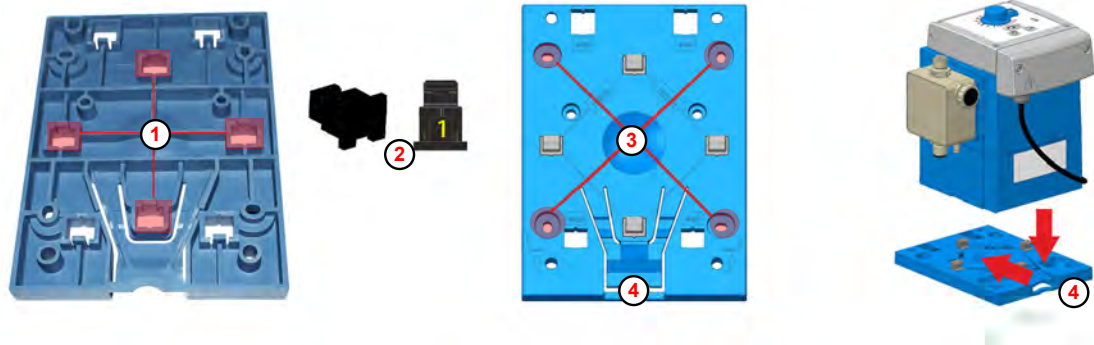

Fig. 4: Preparations for table mounting
- ① Opening
- ② Fixing element
- ③ Borehole
- ④ Fixing bracket
*On the underside of the mounting plate, the boreholes for countertop mounting ( Fig. 4 , ① ) are marked with a 1.*
*Only fixing elements ② with the number 1 may be used for table mounting.*
2. Push the fixing elements from the rear ② into the four openings marked 1 ① and allow them to engage.
4. Using the mounting plate as a template, mark the required boreholes ③ with a sharp pencil.